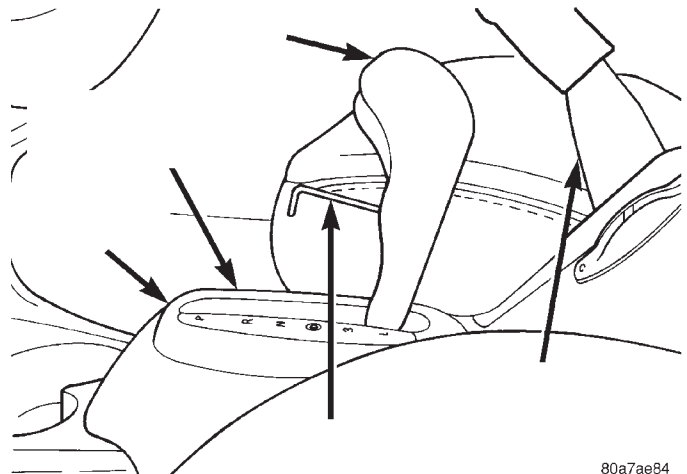

Fig. 120 Shift Knob Retaining Screw
(1) Remove the shift knob from the shifter. **The shift knob is attached to the shifter using a set screw (Fig. 120). Access to the set screw is from the front of the shift knob and is removed using a 2 mm allen wrench.**